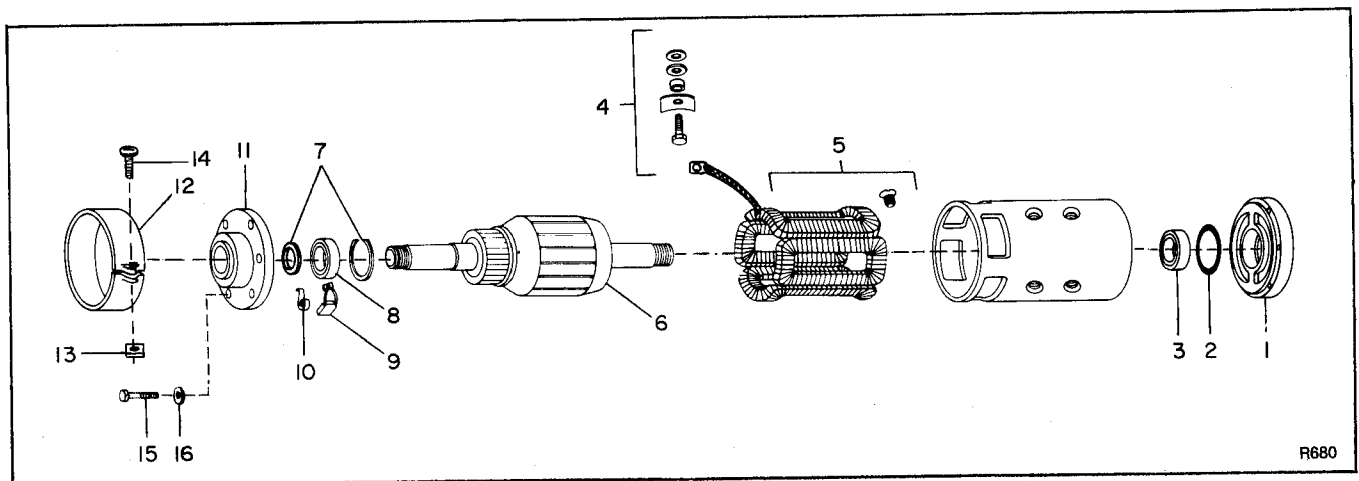

Figure 3-10. Drive Motor
3-14 Drive Motor Repair. (Figure 3-10)
The drive motor requires no periodic maintenance. If the truck does not run and the drive motor is at fault, remove cover band (12, figure 3-10) and then inspect brushes (9) and commutator (on armature). Replace brushes if they are worn. Clean commutator of rough spots with a fine emery cloth and remove accumulations of loose particles.
6. Continue disassembly of motor, using figure 3-10 as a guide.